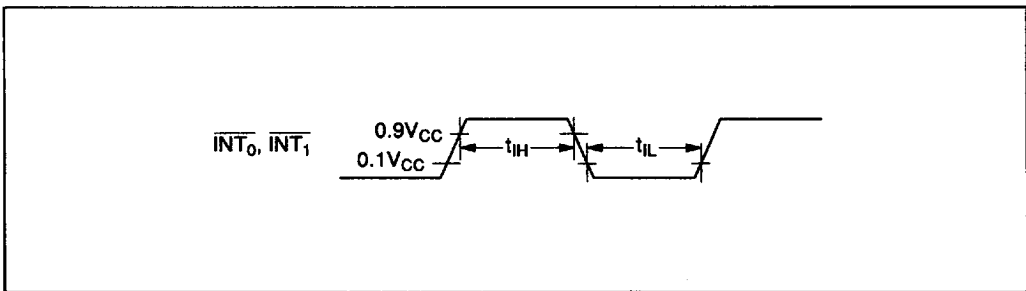

Figure 49 Interrupt Timing
4. See figure 49. The unit  $t_{cyc}$  is applied when the MCU is in standby mode or active mode.
6. See figure 49. The unit  $t_{subcyc}$  is applied when the MCU is in watch mode or subactive mode.  $t_{subcyc} = 244.14 \mu s$  (when a 32.768-kHz crystal oscillator is used)